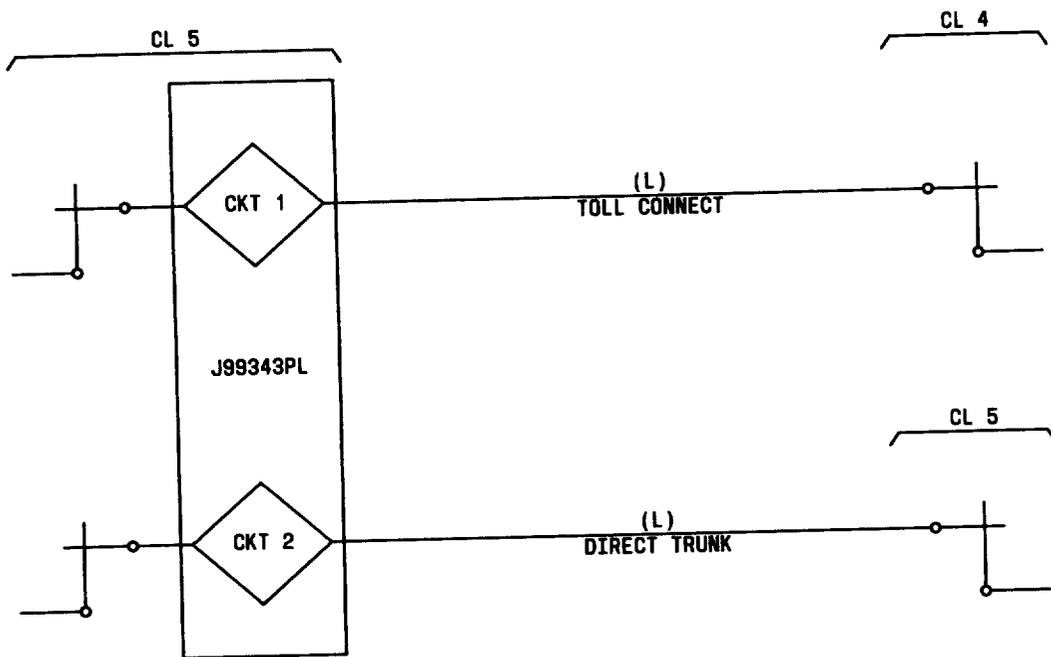

Fig. 7—Typical Applications
**5.01** The J99343PL (L1 and L2) dual terminal repeaters are recommended for message service application or message trunk services (MTS) only (not special services). Two typical applications are toll connecting trunks to class 4 or higher offices and direct trunks between class 5 offices as shown in Fig. 7.